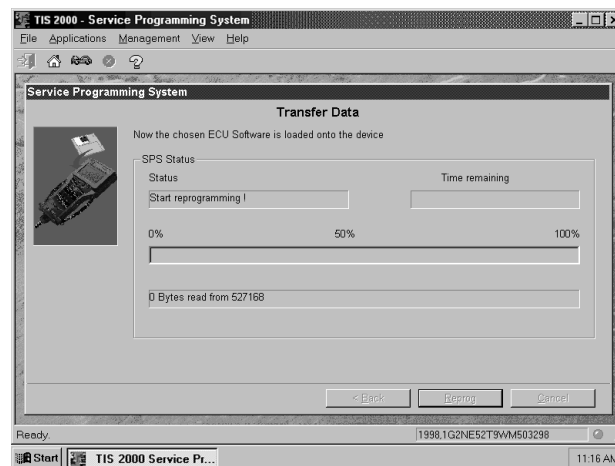

FIGURE 8-29. Transfer Data Screen
m. A Transfer Data screen appears (Figure 8-29). Select **Reprog** to initiate the download of the new calibration file to the Tech 2.